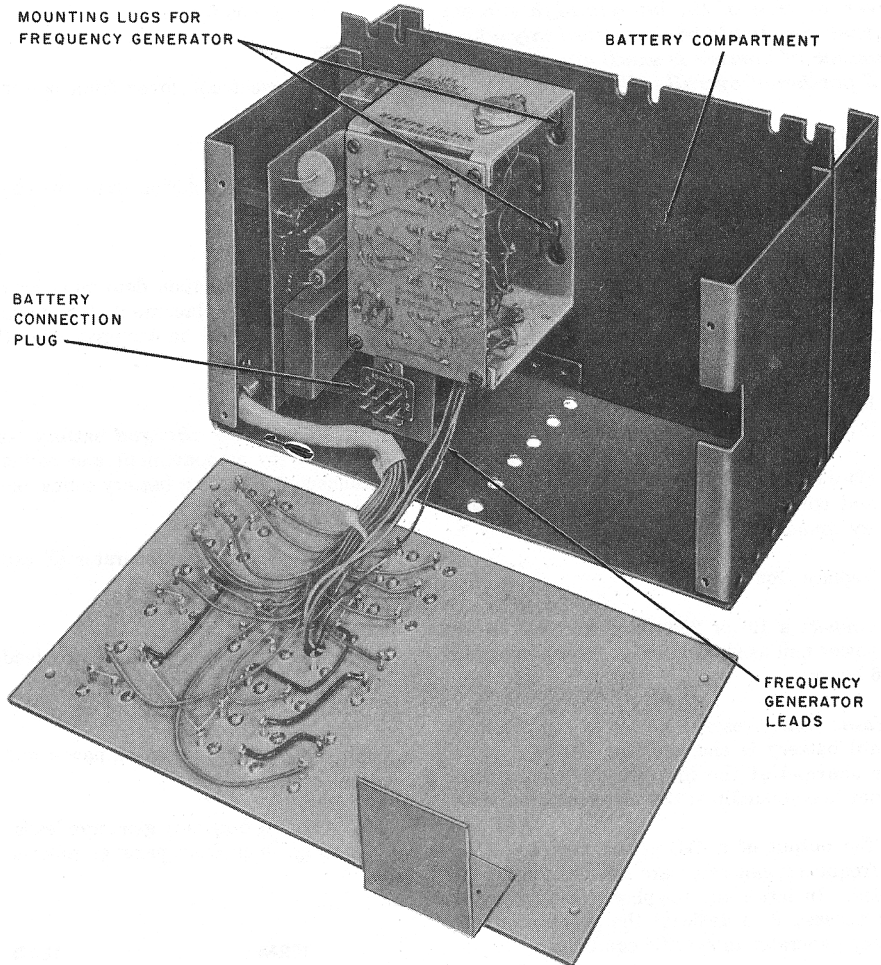
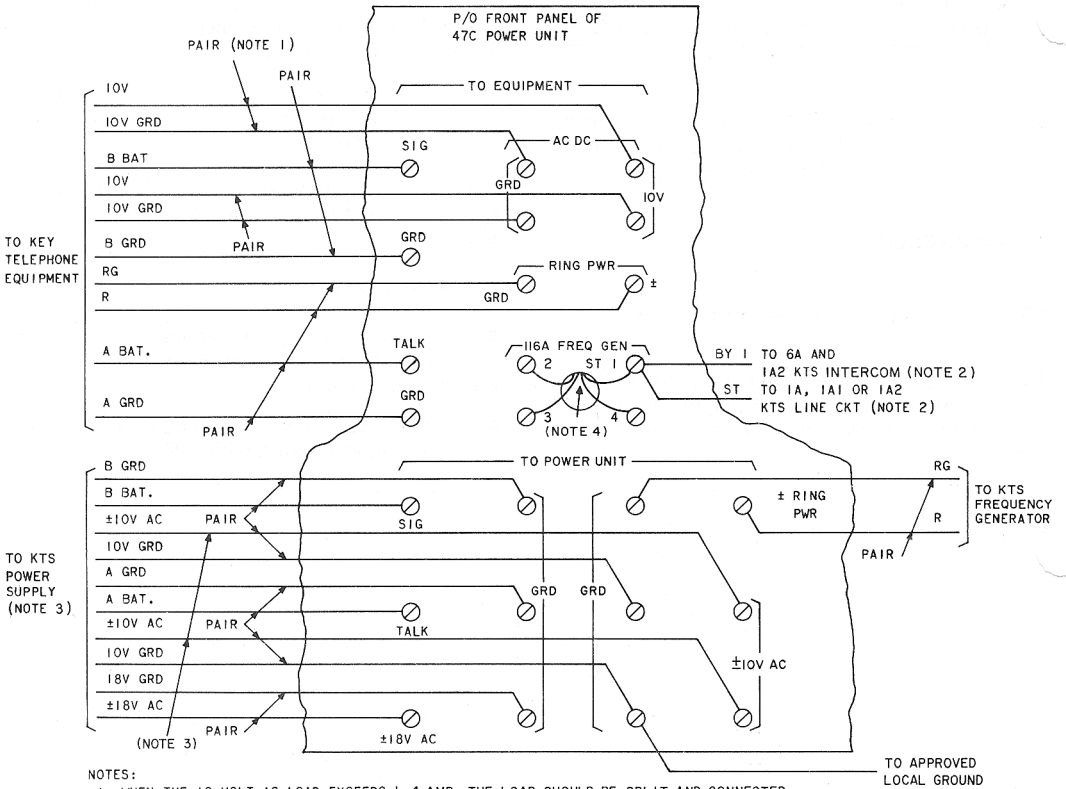

Fig. 2—47C Power Unit (Front Cover Removed)
Fig. 3—Connections for 47C Power Unit
2.04 The front panel (Fig. 2) of the power unit, mounting the input and output screw terminals and fuses, is removable.
2.07 Battery (KS-20390, List 1): Consists of a 24-volt (dc reserve) and a 10-volt dc (lamp reserve) battery in a single case. The battery is mounted in the battery compartment and connected to the power unit with a connector ended cable (Fig. 2). The battery will provide approximately three years of service at ambient temperatures ranging from 32° to 140°F. A label is provided on the battery for recording the installation date.
- (1) Remove front cover from 47C power unit (Fig. 2).
- (2) Place battery in power unit battery compartment and connect battery connector to mating battery connection plug.
- (3) Replace front cover.
- (4) Connect a 19- or 20-type power unit to the power unit as shown in Fig. 3 for a minimum of 16 hours.
- (1) Remove front cover from power unit (Fig. 2).
- (2) Record installation date on label provided on battery.
- (3) Place **fully charged** battery (see 3.03) in battery compartment and connect battery connector to mating battery connection plug.
- (4) Slide frequency generator (if used) in place on mounting lugs.
- (5) Insert frequency generator leads through hole in front panel.
- (6) Replace front cover on power unit
- (7) Connect frequency generator leads to terminals (Fig. 3) on front panel as follows:
4.01 Connect power unit as shown in Fig. 3.